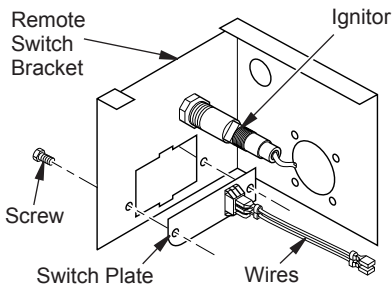

Figure 27 - Switch Plate and Wiring Harness
3. Remove switch plate (see Figure 27). Discard after removing.